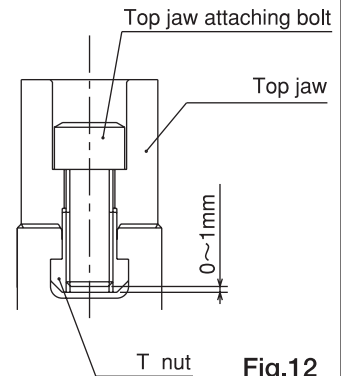

Fig.12
- If the screw-in depth of the jaw attaching bolt to the T nut is shallow, the T nut will break, and this is dangerous as the jaw and work will fly out. If the attaching bolt is too long and comes out from the bottom of the T nut as well, this is dangerous as the jaw and work will fly out since the top jaw is not fixed. Therefore, the overall length of the jaw attaching bolt must be approximately 0 to -1mm from the bottom of the T nut (Refer to Fig.12).